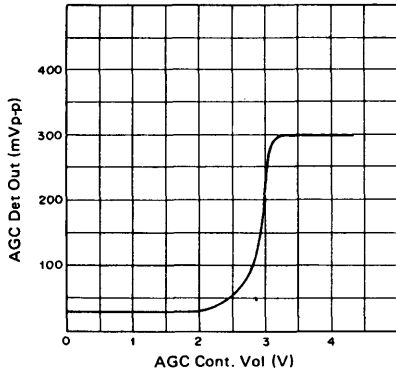

Fig. 1
- [1] AGC amplifier output characteristics (Fig. 1)